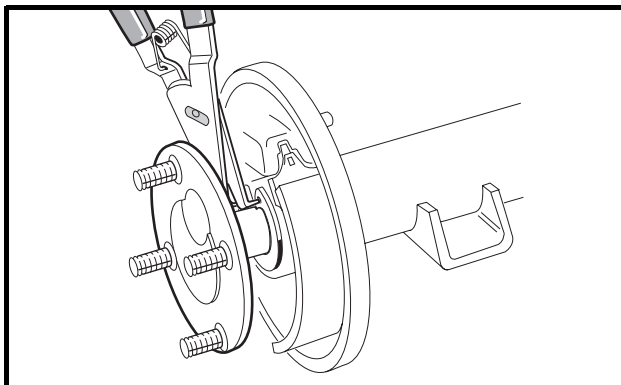

Figure 23-1 Axle Tube
3. Use 90° internal snap ring pliers to remove the internal retaining ring (6) from the axle tube. **(Figure 23-1, Page 23-2).**